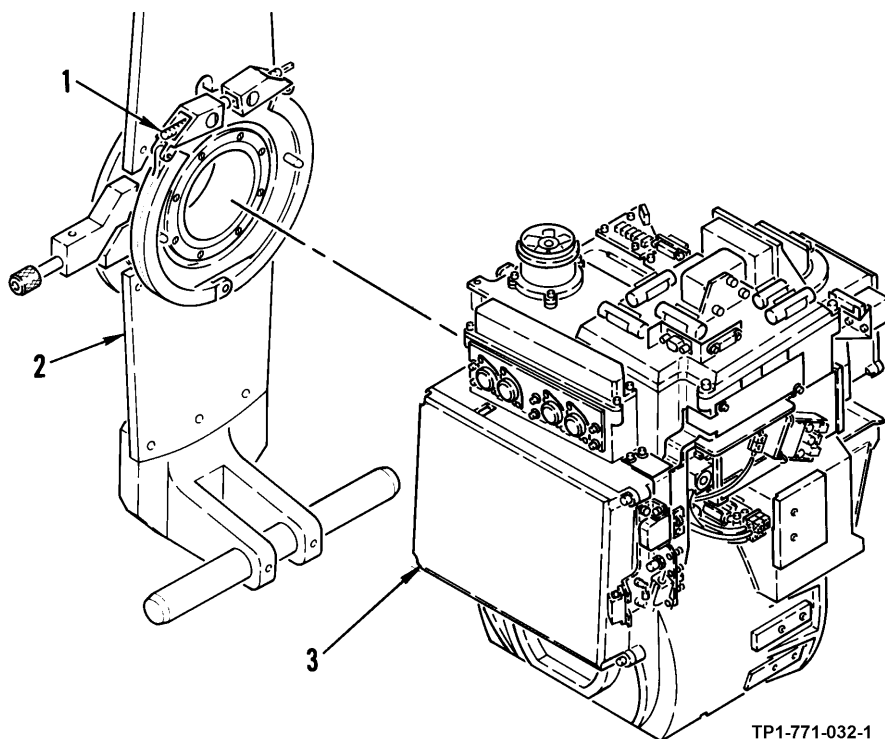

Figure 2-23. Channel Balance Adapter Removal From TADS NSA
- e. Loosen clamp assembly (1, figure 2-23). Then remove channel balance adapter (2) from TADS NSA (3).